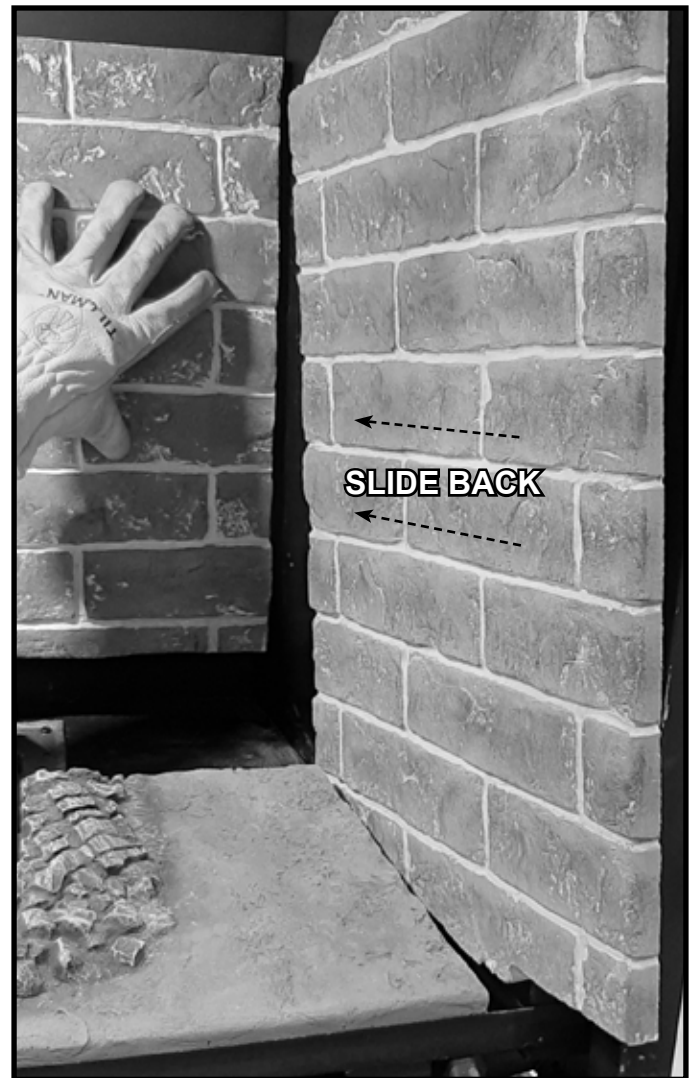

Figure 6 Install Side Refractory Panel
7. Tilt the side refractory panel backward and insert it in the gap as shown in Figure 5. Level the side refractory panel and gently push it toward the back of the firebox until it meets the back refractory panel, holding it in place. See Figure 6. Figure 7 shows the side refractory panel installed.